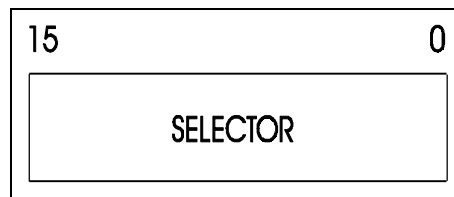

Figure 2-10. Task Register
The **Task Register** (TR) holds a 16-bit selector for the current Task State Segment (TSS) table as shown in Figure 2-10. The TR is loaded and stored via the LTR and STR instructions, respectively. The TR can only be accessed during protected mode and can only be loaded when the privilege level is 0 (most privileged). When the TR is loaded, the TR selector field indexes a TSS descriptor that must reside in the